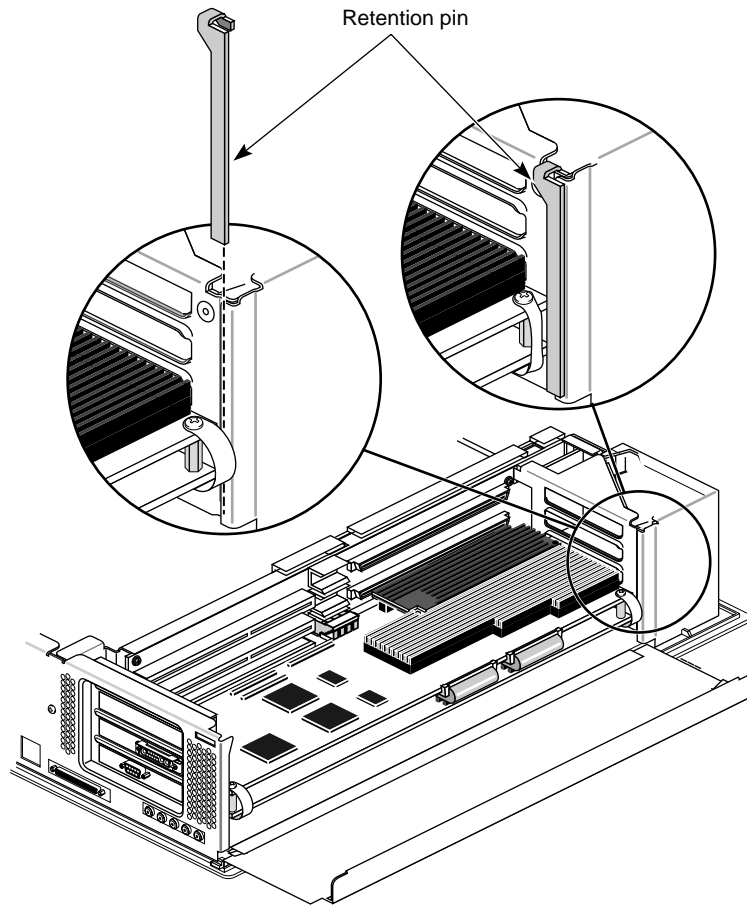

Figure 2-17 Installing the Board Set Retention Pin
14. Position the board retention pin on the sheet-metal chassis next to the fan housing as shown in Figure 2-17.